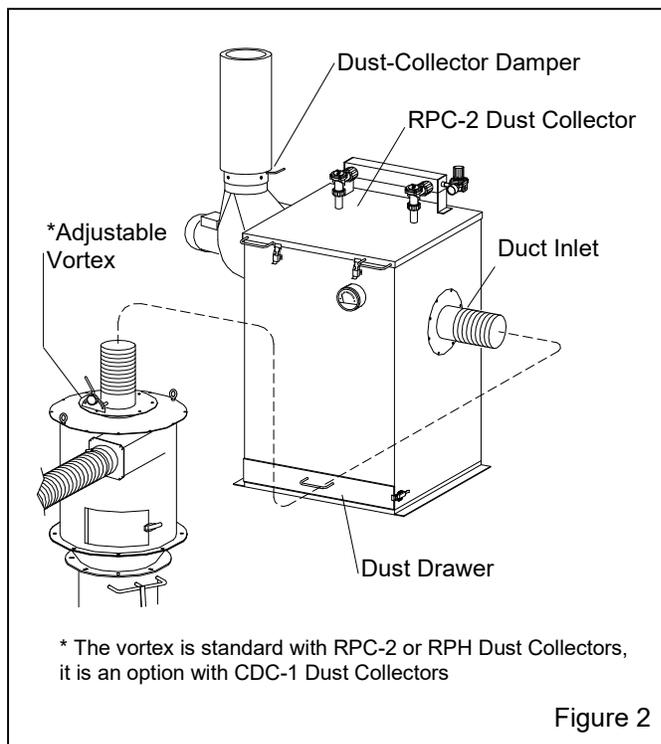

Figure 2
**1.4.3** Refer to Figure 1 for arrangement of components with a CDC-1 Dust Collector. The illustration shows 900 cfm reclaimer mounted atop the blast machine; the larger 1200 and 1800 reclaimer is mounted in the same manner but supported by legs. Figure 2 shows the arrangement with an RPC-2 reverse-pulse dust collector with dust drawer. The optional RPH is set up the same way as the RPC-2, but includes a hopper for additional dust storage and empties into a drum. The overall height of an RPH-2 is approximately 10.5 ft and 12 ft when the top access door is open. To upgrade, an RPC-2 or RPH-2 collector may be added at any time.
**1.7.2 RPC-2 Dust Collectors:** Shown in Figure 2, this collector is available in 900 cfm models for use with BNP-6012 and 7212 cabinets. Dual filter cartridges are automatically cleaned by a timed, periodic pulse of compressed air. Dust collects in the drawer, and it must be frequently emptied. Refer to manual number 22788.
**1.7.3 RPH Dust Collector:** The RPH-2 (900 cfm) and RPH-3 (1200 cfm) are set up and operate the same as the RPC-2, as shown in Figure 2, but instead of a dust drawer, the collector sits atop a hopper, which provides additional dust storage, and empties into a drum. An RPH is standard with 1200 cfm models. Refer to manual number 21449.
**2.1.1** Refer to Figure 1 (and Figure 2 for optional reverse-pulse collector) for the general arrangement and Figure 9 for the control line schematic. Select a location where compressed air and electrical service are available. The cabinet location must comply with OSHA and local safety codes. Allow for full access to all doors and service areas and for efficient handling of large parts. Provide enough clearance in front of the dust collector to remove the dust drawer without tipping. Ideally, locate the blast machine directly behind the cabinet with the blast-hose connection toward the cabinet. The reclaimer may be rotated on the blast machine to allow for as few bends in the flex hose as possible to prevent wear. Determine the best location for all components and position them before making compressed-air connections, electrical connections, and attaching flex hoses.